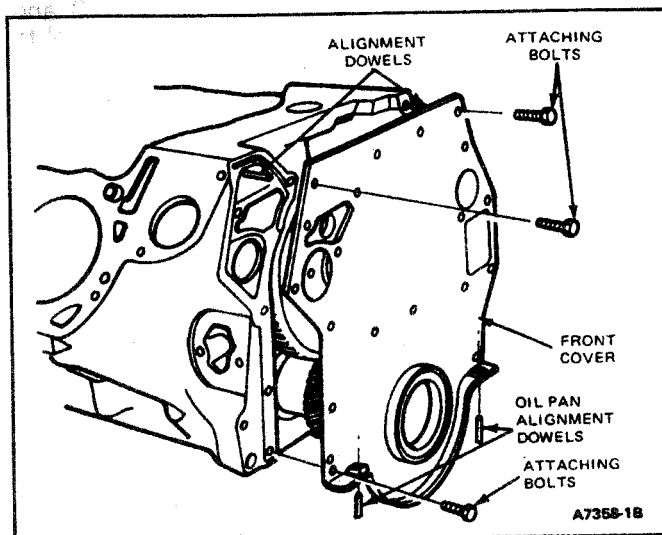

FIG. 36 Front Cover Alignment Dowels
6. For in-vehicle repair, install fabricated alignment dowels, (Fig. 36) on engine block and oil pan to align front cover and gaskets. For overhaul repair, install fabricated alignment dowels as shown in Fig. 29.
10. Install engine front cover in position, on oil pan dowels first, and install three attaching bolts as shown in Fig. 36.